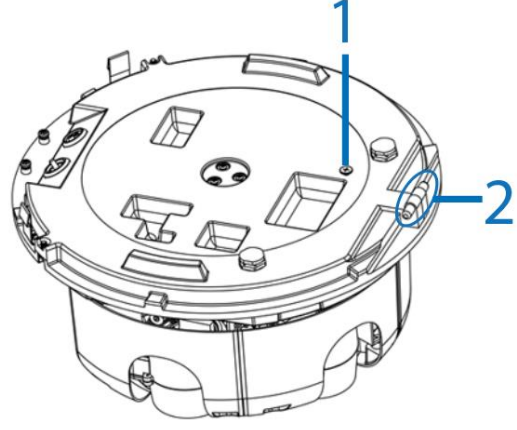
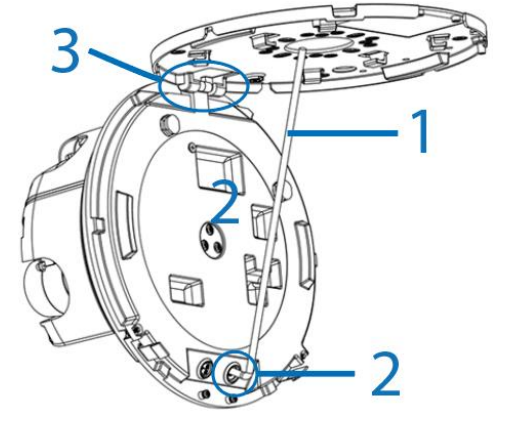
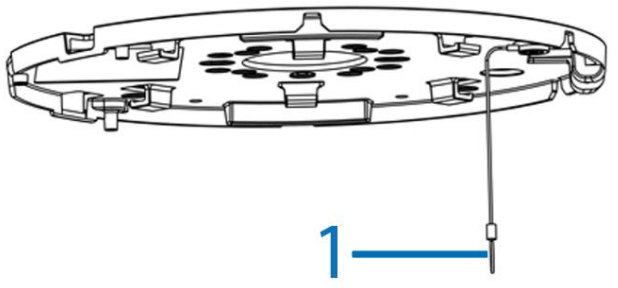
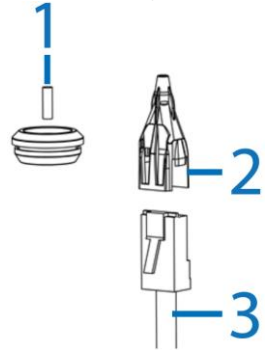

Figure 6
Figure 8
Figure 5
Figure 7
8. Insert the 'hinge pins' (2) (Figure 6) on the camera module lens into the 'hinge knuckle' on the mounting plate. **'3' in Figure 8 identifies how the camera lens module and mounting plate attach together.**
10. Insert the RJ-45 cable (3) (Figure 7) into the insert tool (2) (Figure 7) remove the rubber grommet (2) (Figure 8) from the camera lens module.
11. Pierce the rubber grommet (1) (Figure 7) by passing the insert tool and cable through the center of the rubber grommet.
16. Hold the camera top cover (1) (Figure 8) up to the camera lens module and align the six holes on the camera top cover with the six holes on the camera lens module.
7. Hold the camera lens module up to the mounting plate and insert the 'loop' on the safety lanyard (1) (Figure 5) that is attached to the mounting template to the screw (1) (Figure 6) on the camera lens module.